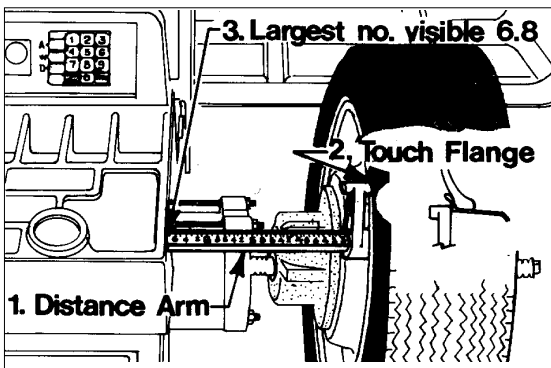

Figure 12 - Inner Plane Measurement
1. Measure the inner plane (A) distance by pulling the distance arm out of the balancer until it touches the rim (figure 12). Place the small end of the handle against the recessed portion of the inside flange of the wheel. Read the last number visible where the distance arm exits the balancer cabinet.